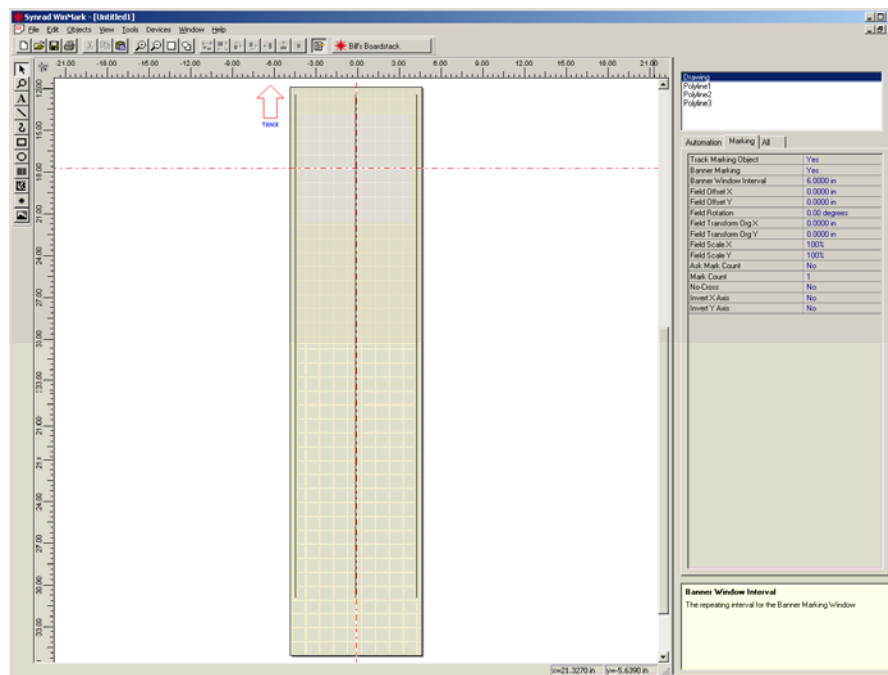

Figure 3 Mark file for fine-tuning Banner Tracking Angle Adjustment
To fine-tune the banner tracking angle once the initial tracking setup is complete, create a mark file containing three parallel lines in the direction of travel as shown in Figure 3. Center one line on the *Drawing Canvas* and place the other two lines on each edge of the canvas.
Before fine-tuning the Banner Tracking Angle Adjustment property, first adjust Encoder Resolution to eliminate any gaps or overlaps in the lines in the setup file (the three parallel lines shown in Figure 3) as described in the *Banner tracking optimization* section.
- 2 Create a banner tracking setup file as shown back in Figure 3.